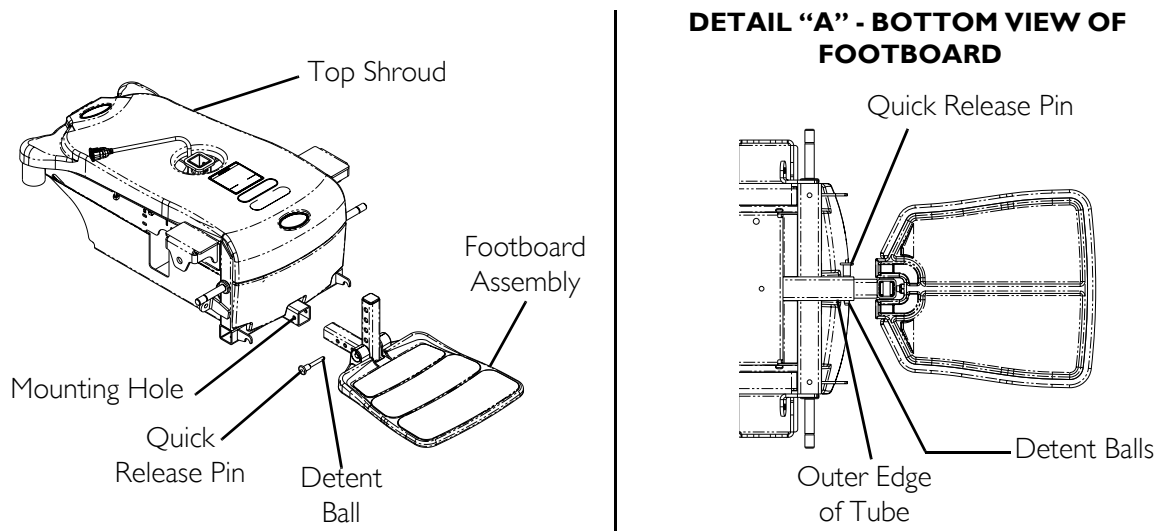

FIGURE 8.1 Removing/Installing the Footboard Assembly
2. Install the quick release pin by depressing the button while sliding the pin in. Ensure that the detent balls are engaged with the outer edge of the tube (Detail "A" of FIGURE 8.1).